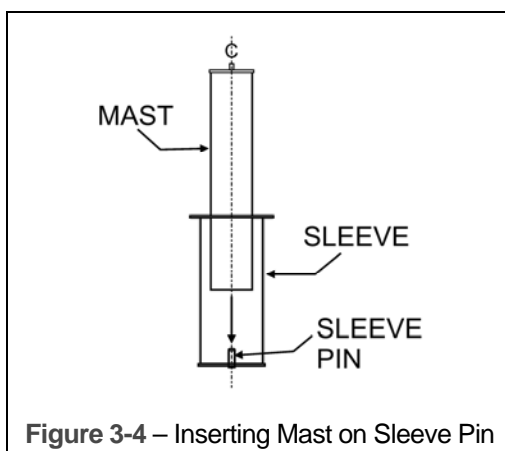

Figure 3-4 – Inserting Mast on Sleeve Pin
- 9) Insert MAST into SLEEVE and allow the bottom hole of MAST to slide over SLEEVE PIN (see **Figure 3-4**)